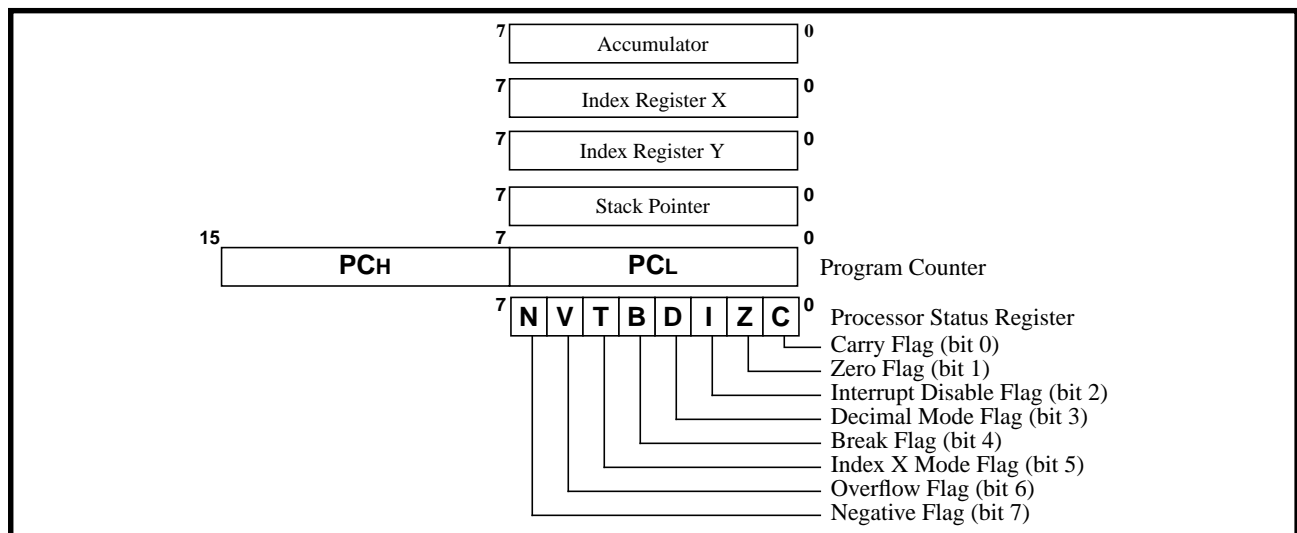

Figure 2-1. Register Structure
The Program counter (PC) is a 16-bit register consisting of two 8-bit registers (PCH and PCL) (see Figure 2-1.).